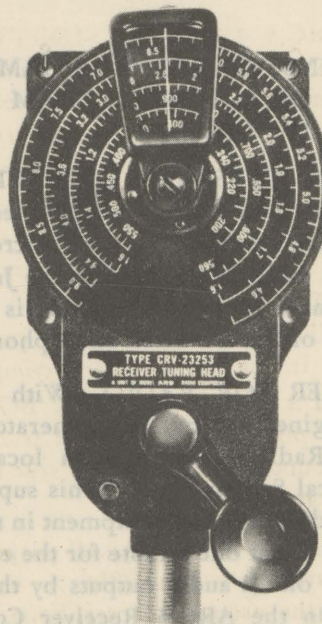
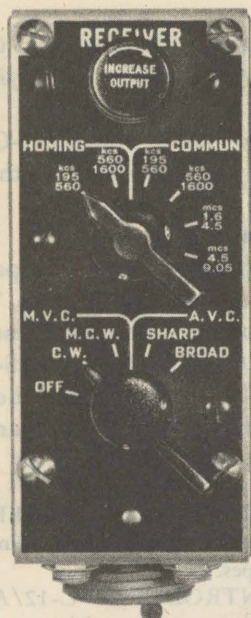

Figure 65 — Receiver Tuning Head
Figure 66 — Pilot's Receiver Control Unit
(2) ARB RECEIVER.—This receiver is located in the bombardier's compartment and operates through the fixed antenna. Types of its reception are Voice, CW and MCW signals in the frequency range of from 190 KC to 9050 KC, the frequency range being divided into four bands. Operation and selection of stations is remotely controlled by a control unit (see Figure 66) and tuning head (see Figure 65) in the pilot's cockpit, starboard side. Tuning can also be controlled at the receiver front panel.